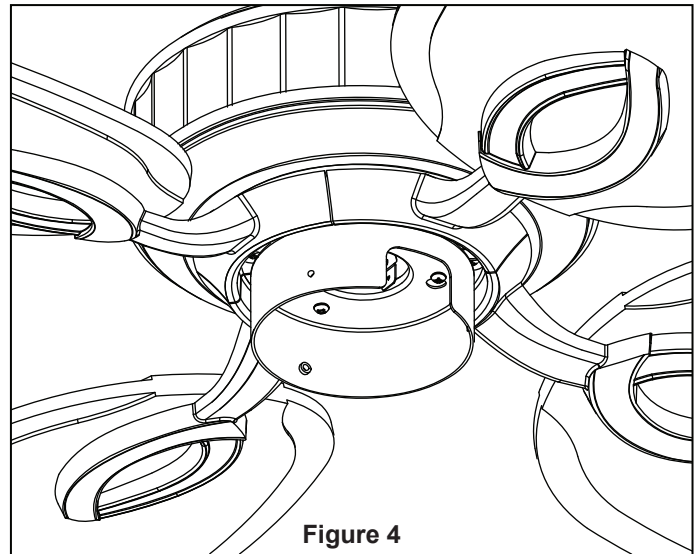

Figure 4
8. Assemble the Adapter assembly on the Housing Support bracket and tighten three screws. (Figure 4)